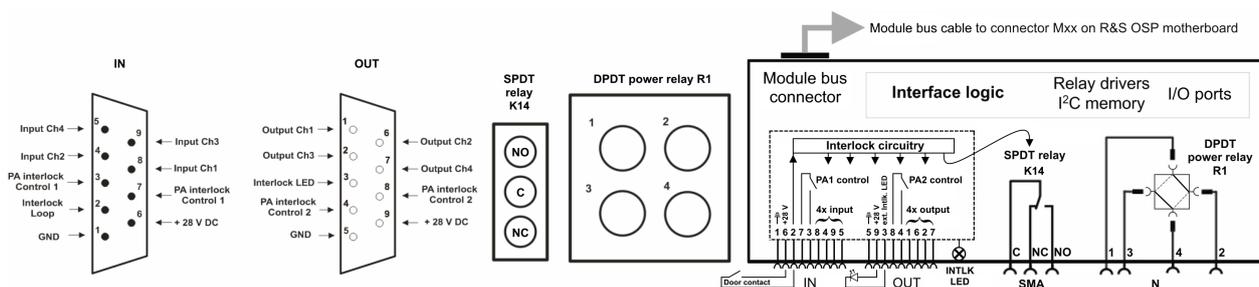

Figure 3-57: Pinout and block diagram of RF switch module R&S OSP-B114
The male D-Sub 9 connector labeled "IN" provides 4 input channels and 5 other lines, as shown in Figure 3-57:
The female D-Sub 9 connector labeled "OUT" provides 4 output channels and 5 other lines, as shown in Figure 3-57:
- Pin 3 of the output port ("Interlock LED" in Figure 3-57) is controlled by the module's interlock logic and activated together with the "INTLK LED". It is specified at a maximum of 100 mA. Hence, you can use pin 3 and pin 9 ("+28 V DC") of the output port to control a remote LED or a different indicator in a separate location, as in Figure 3-57. For example, this indicator can be on the front panel of a rack or in an office.
- If the LED shows red light, there is no connection between the input port's pins 2 ("Interlock Loop") and 6 (" +28 V DC") of the input port (see Figure 3-57). It indicates that the interlock is open.